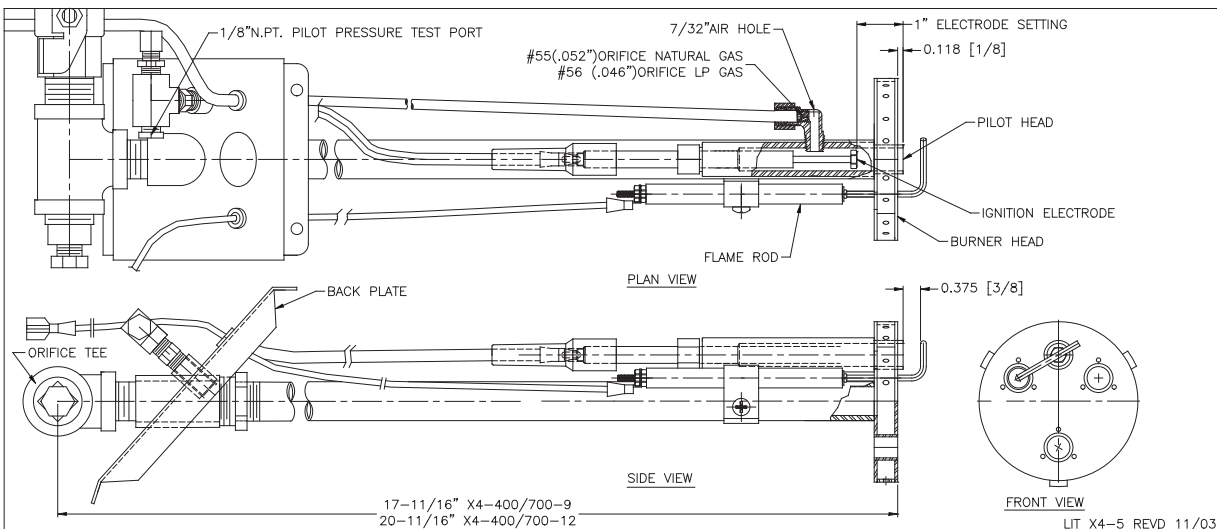

Figure 7: Pilot/Gun Assembly – Flame Rod Type – Natural Gas/LP Gas
- 7.10.1 Before attempting burner start up make certain that you are familiar with the operation of the Primary Safety Control and other components being used on this specific application. **Refer to Fig. 7 and 8.**